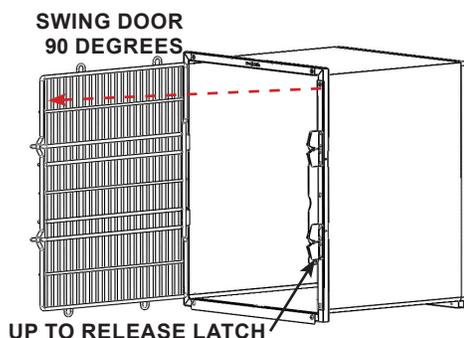

FIGURE 2.1 - Open Door 90°
STEP 1: Slide the latch bar up and swing the door to the open position (90° to cage face). See FIGURE 2.1